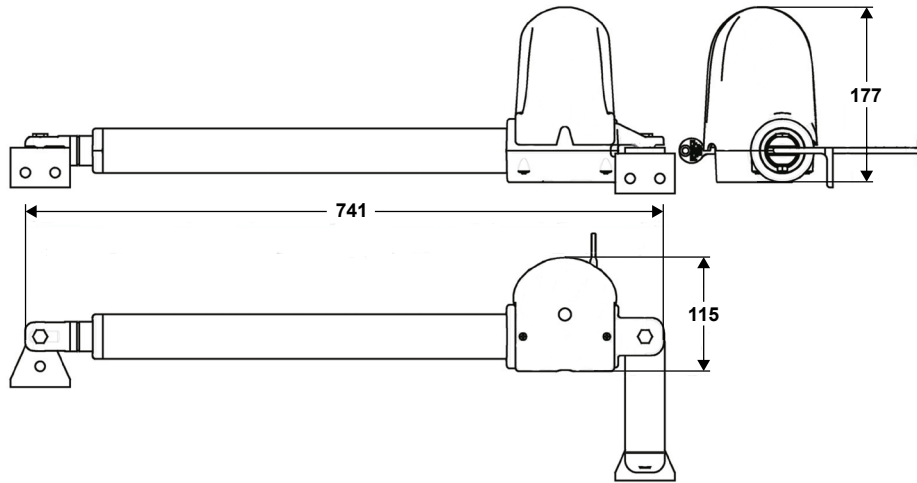

Fig. 2 IT - Limiti di impiego
- The weight and size of the gate or door must be within the maximum permissible operating limits specified in Fig. 2